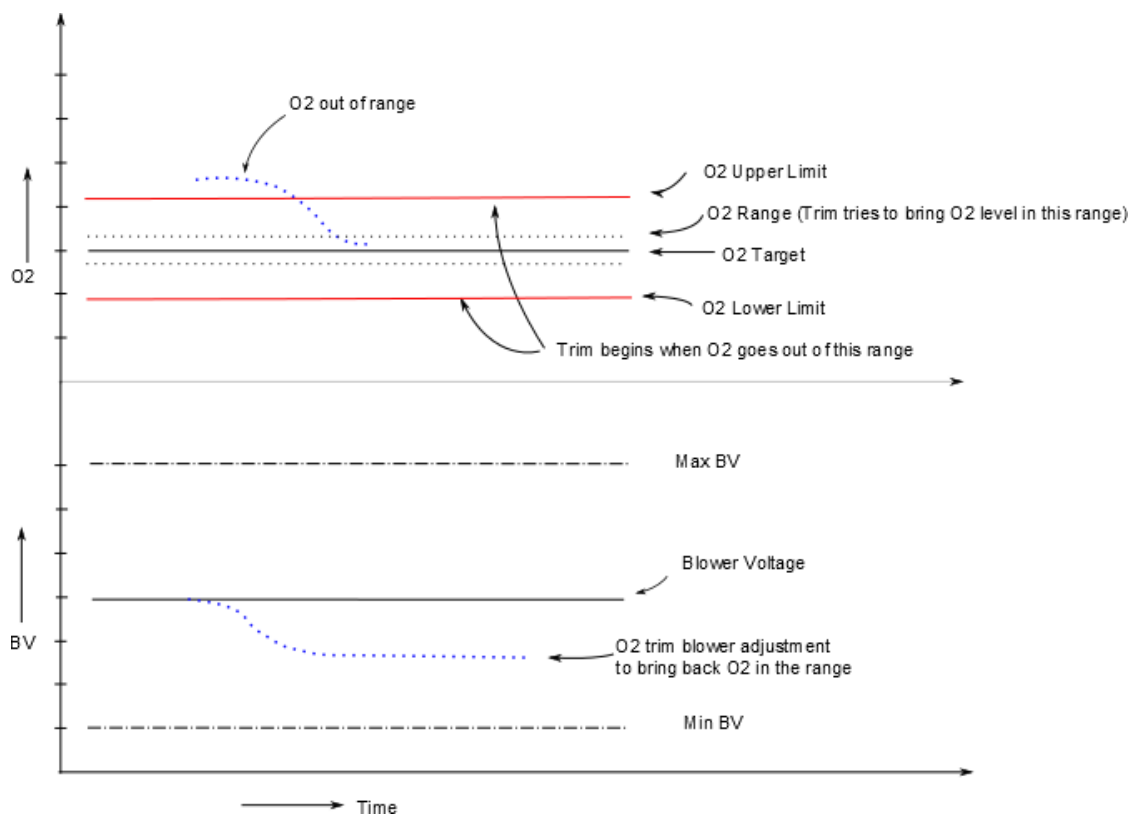

Figure 4-3: AERtrim Logic
Figure 4-3 graphically shows the functional logic of the AERtrim system and how the blower voltage (BV), O₂ Limits, and air/fuel ratio interact during an AERtrim operation. The limits are fixed presets within the controller. The target range is adjustable within these limits to allow the user to select the optimal air/fuel ratio for a particular boiler or application.
Figure 4-3 shows how the controller would react to an O₂% reading above the upper limit. The controller will reduce the blower voltage (BV) until the O₂% reading is within the Target Range, provided the BV adjustments are within the BV limits for that unit at that fire rate. The control will then store this as the new BV calibration setting until changed manually or by another cycle of the AERtrim function.